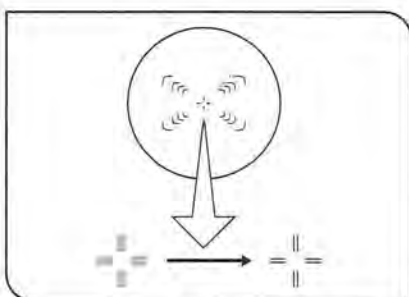

Fig. 72
5 Adjusting the Focus (Figs. 72 & 73)
(Figs. 72 & 73)
- The finder eyepieces show four photo masks. The numbers given to the masks correspond to the magnifications of the photo eyepiece. (Fig. 72)
1. Adjust the diopter of the eyepieces and focus on the photo masks in advance. Focus so that the double crosslines are sharply visible as two distinct lines. (Fig. 72)